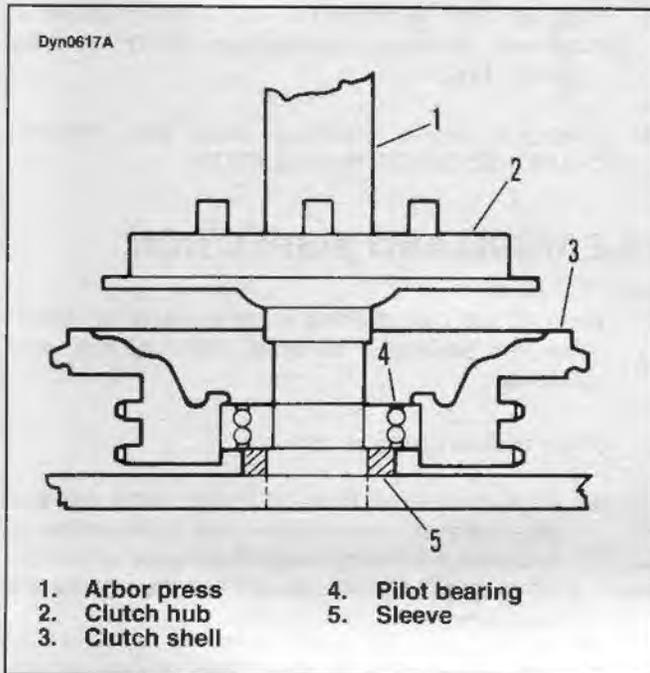

Figure 6-15. Pressing Hub into Pilot Bearing
- See Figure 6-15. Place clutch shell (3) on arbor press with pilot bearing inner race supported by a sleeve (5). Press hub (2) into bearing until hub shoulder contacts pilot bearing.